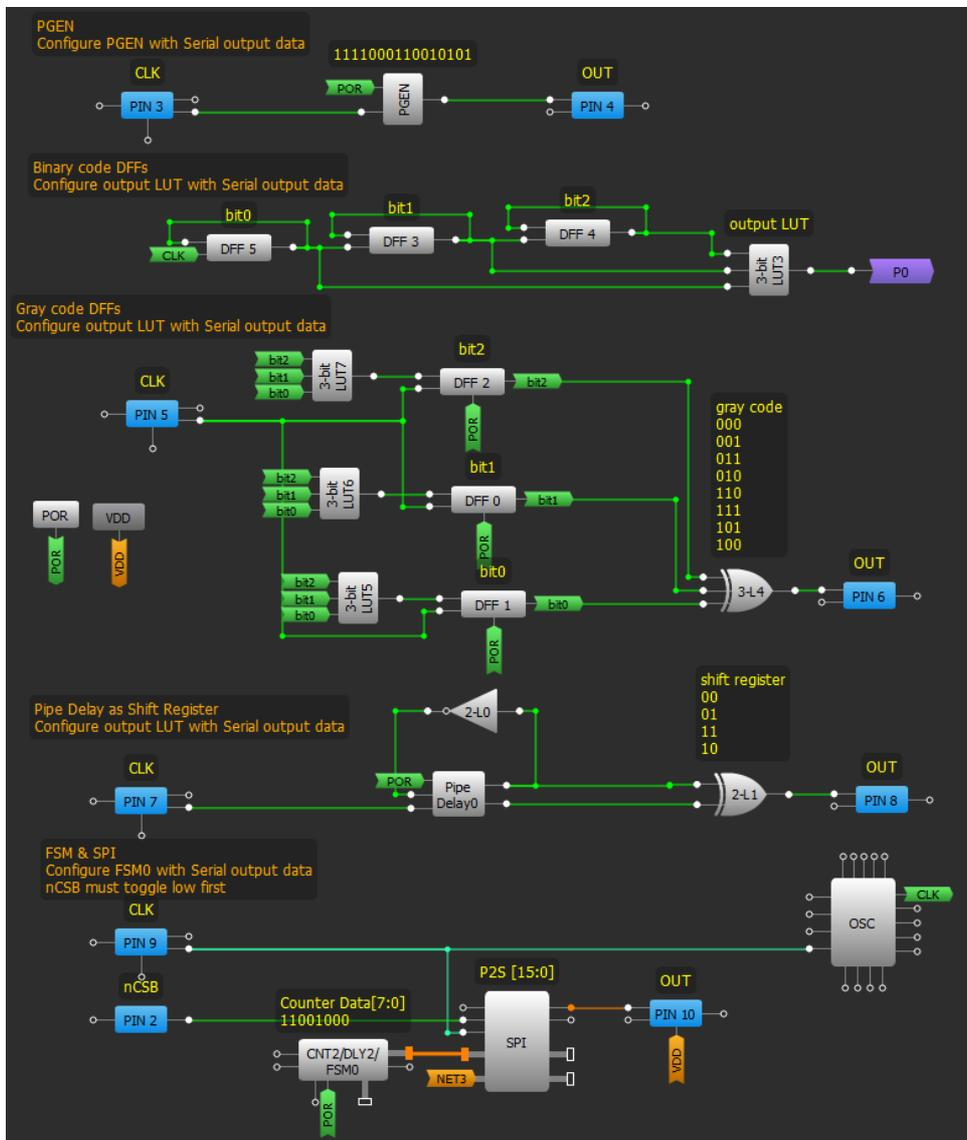

Figure 9. Matrix 0
- Make matrix connections as shown in Figure 9
In the 'Vertical' ASM, the design scrolls through the states of one column and then moves on to the next column. In Figure 9, each ASM output is windowed for 8 clock periods by the Gray Code DFFs. The DFF3 generates a pulse every period which is used to transition between states.